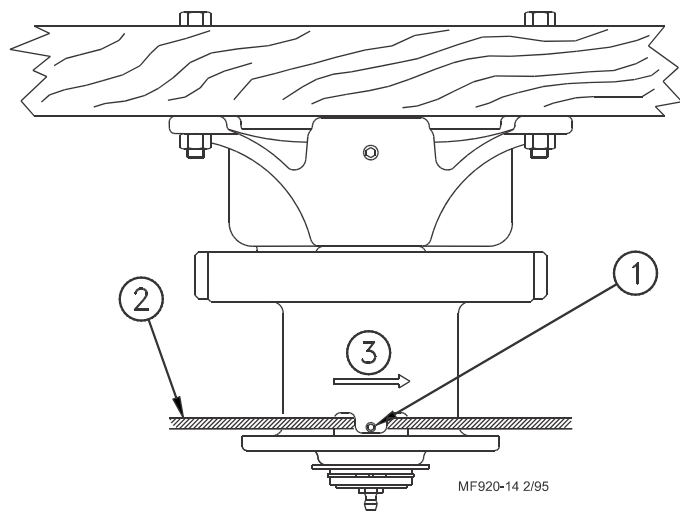

Figure 9. Winch Cable Installation (End View)
4. Route the cable through the winch drum relief located near the bottom of the drum. Tighten the set screw to anchor the cable to the drum. (See **Figure 9**.)